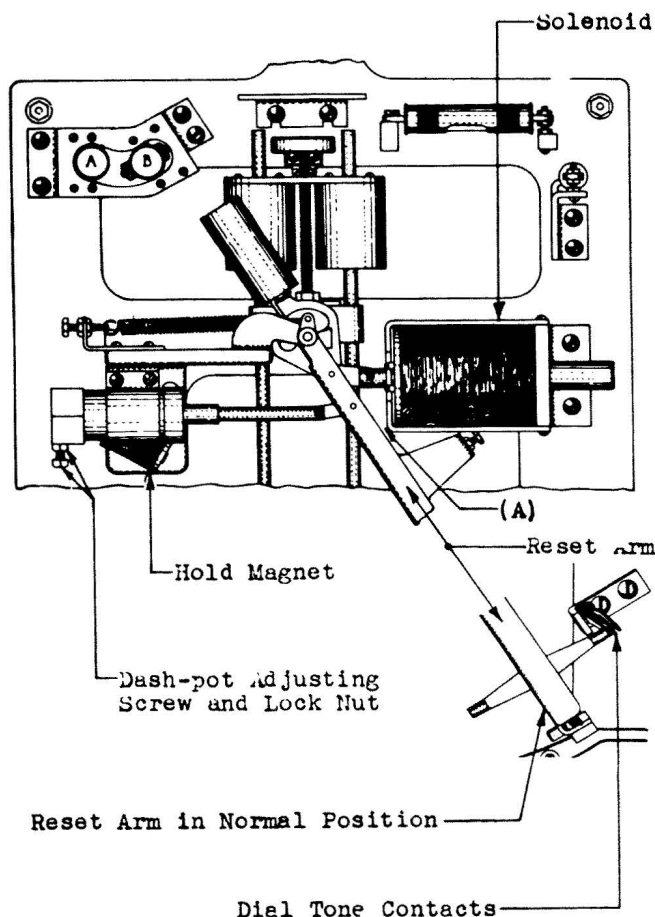

Fig. 21 - Clearance Between Reset Arm and Solenoid With Reset Arm in Normal Position
(a) Fig. 21 (A): The springs shall be located so that, with the reset arm in the normal position and closing the contacts, the clearance between any part of the reset arm and the solenoid will be: